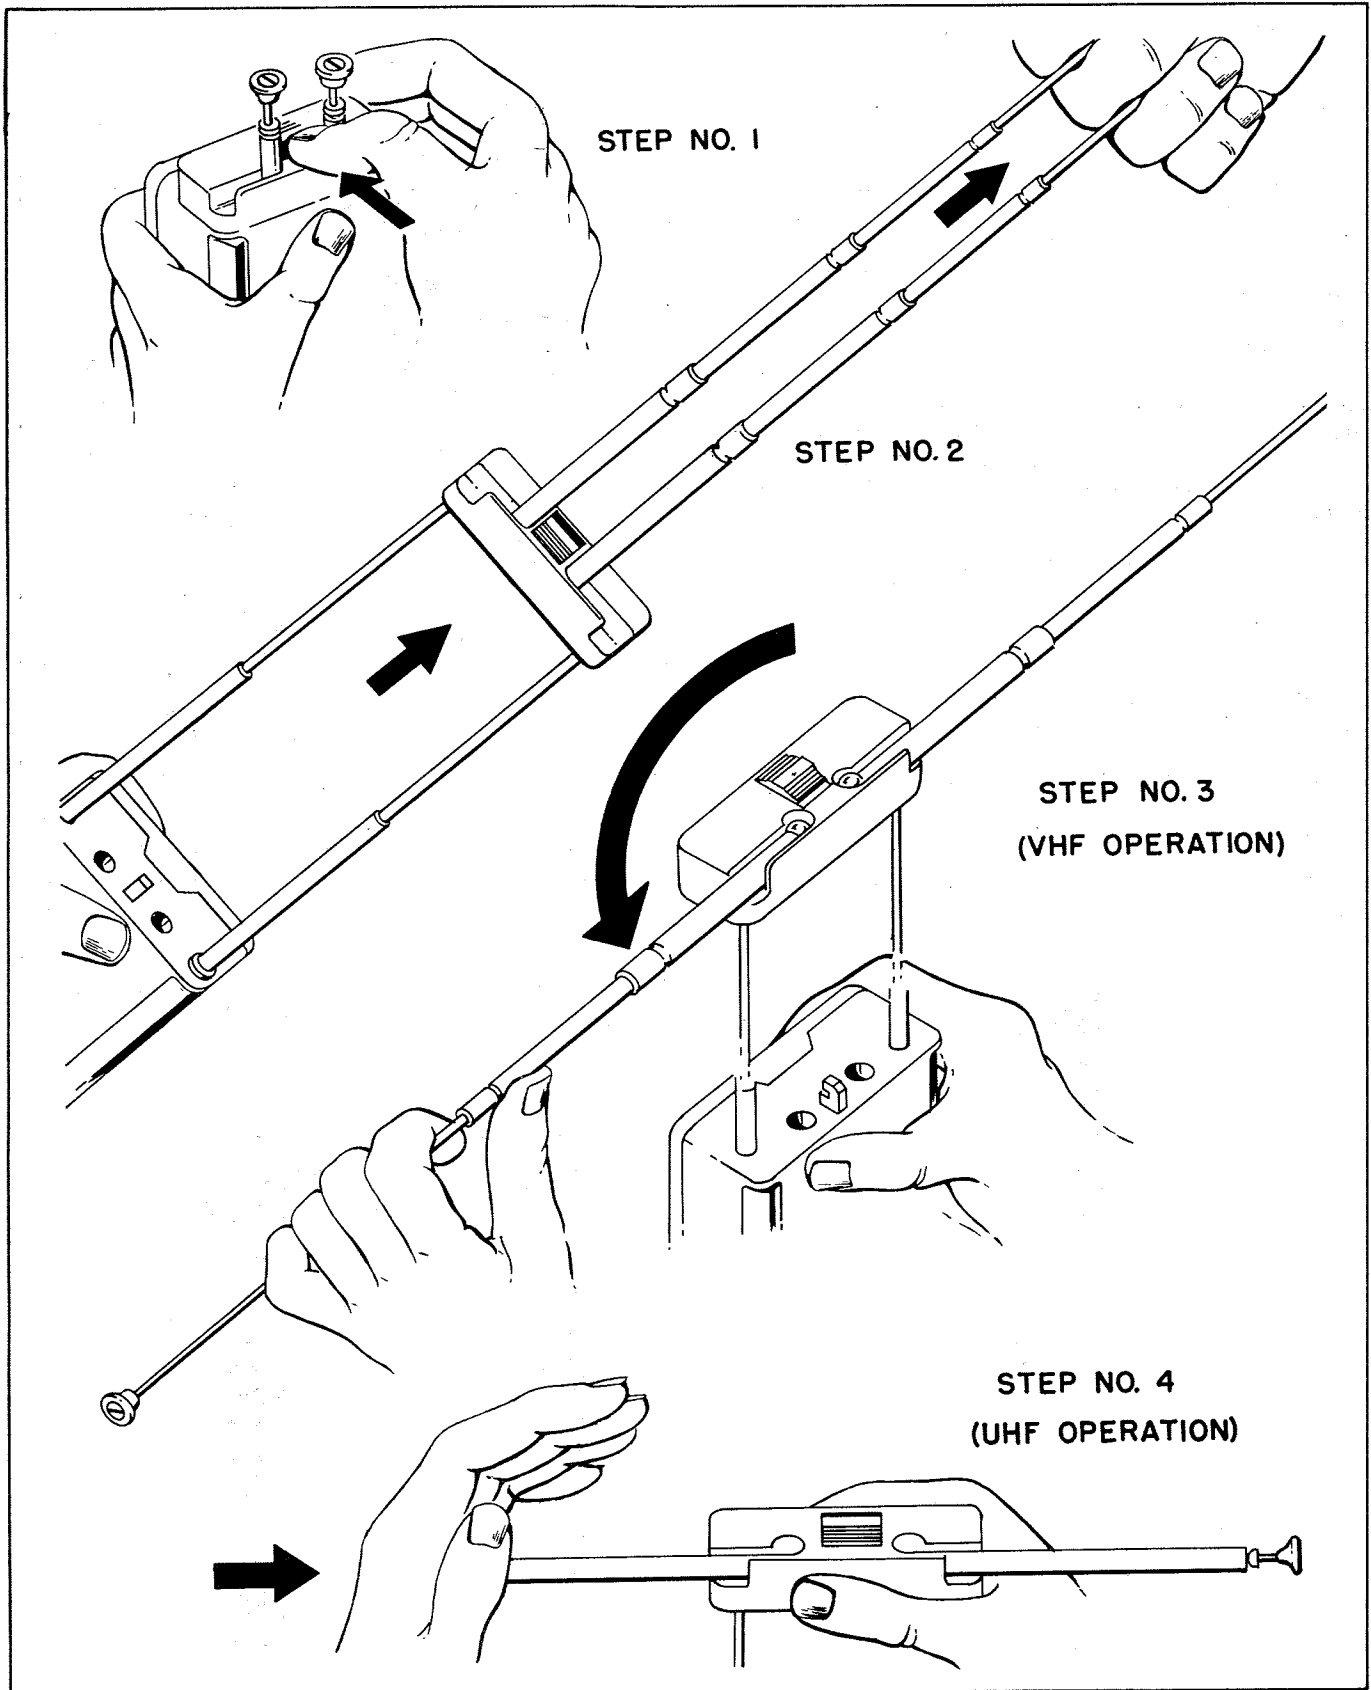

Figure 3-3. Procedure for Extending Antenna for VHF and UHF Operation
3-11. The antenna should be extended as shown in figure 3-3 and described in the following paragraphs:
b. Step No. 2. Grasp the two vertical antenna sections that will appear when the lock is released, as shown in figure 3-3, and pull the antenna out to its full length.
4-8. Inasmuch as it is necessary to change the resonant frequency of the antenna in conjunction with the operation of the band switch, the antenna itself may be classed as an operating control. When the switch is in the "VHF" position, the horizontal arms of the antenna should be extended to their greatest length as shown in figure 3-3, step 3. When the switch is in the "UHF" position, the horizontal arms of the antenna should be pushed inward so that the horizontal length is at a minimum as shown in figure 3-3, step 4.